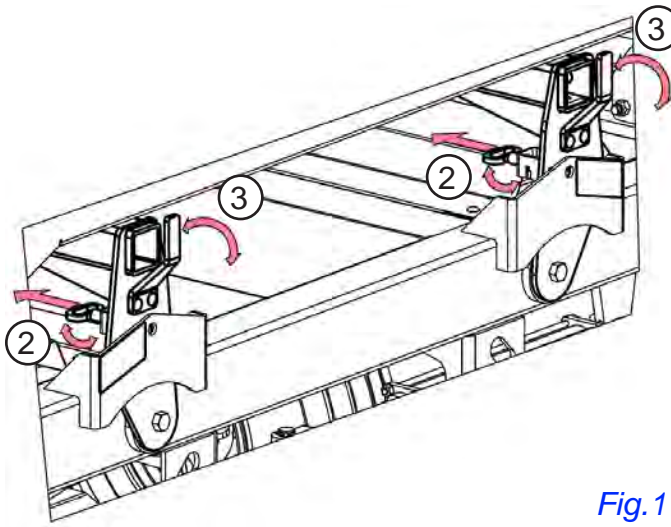

Fig.1
2. Pull pin out and rotate clockwise to lock in open position. See Fig.1.